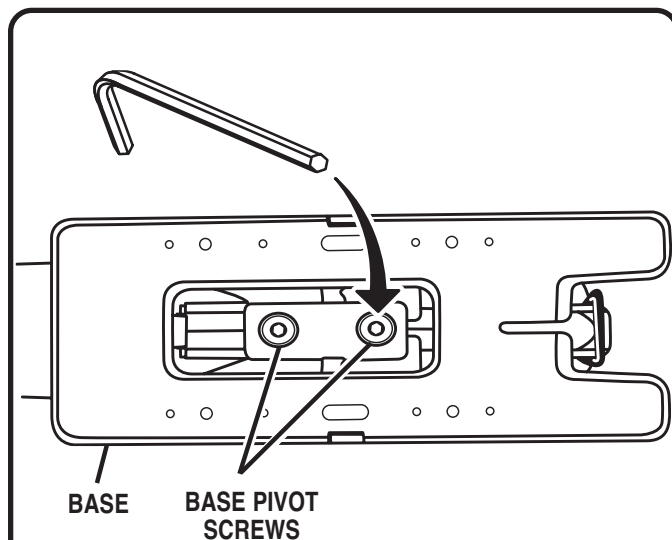

Fig. 6
See Figures 6 and 7.
- Slide base forward until base pivot screws can move freely in slots in base. See Figure 6.